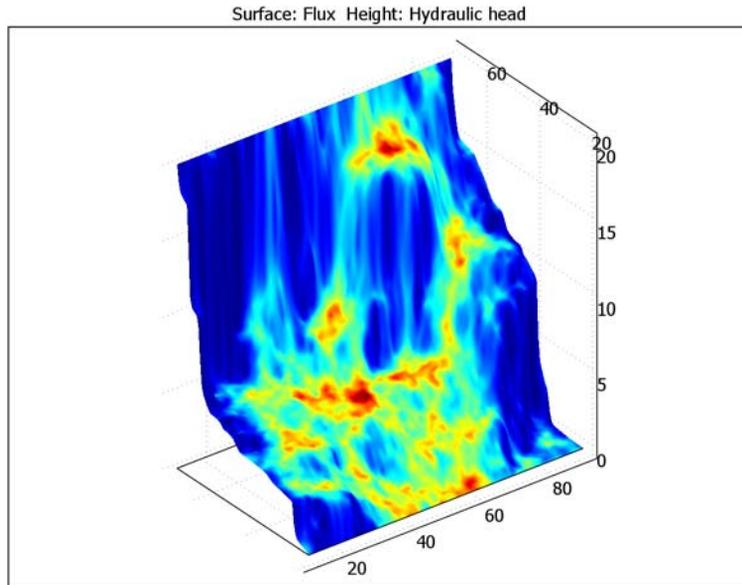

Figure 7-5: The flux and the hydraulic head.
The plot in Figure 7-5 shows the flux using colored surface data and the hydraulic head as the z -coordinate (height).
- 6 Click **OK** to close the **Title** dialog box, and then click **Apply** to create the plot in Figure 7-5 on page 285.